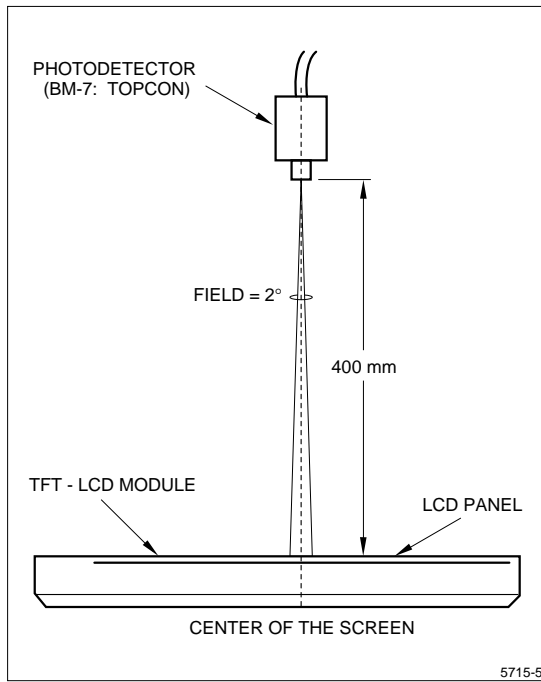

Figure 5. Optical Characteristics Measurement Method
- The measurement shall be executed 15-20 minutes after the module has been lit at the proper rating. The optical characteristics shall be measured in a dark room or equivalent state with the method shown in Figure 5. These characteristics, except for White Uniformity and Shadowing, are measured at the center of the screen.